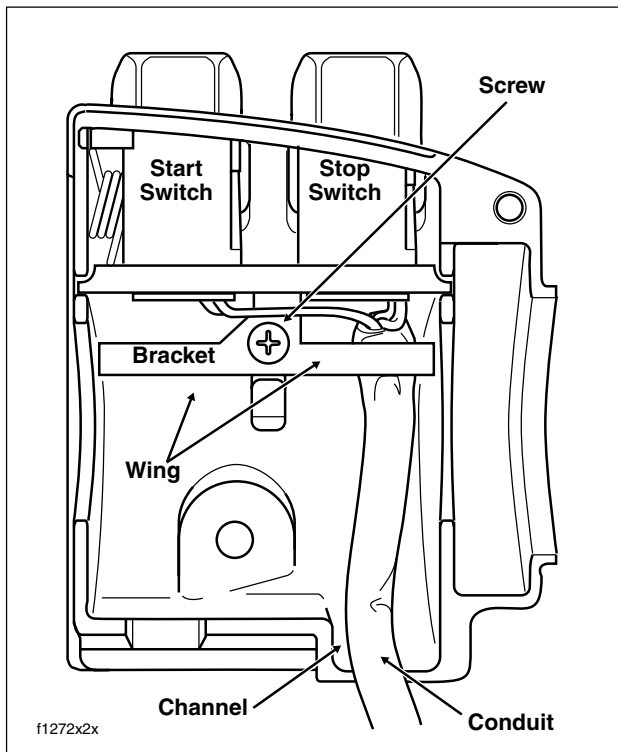
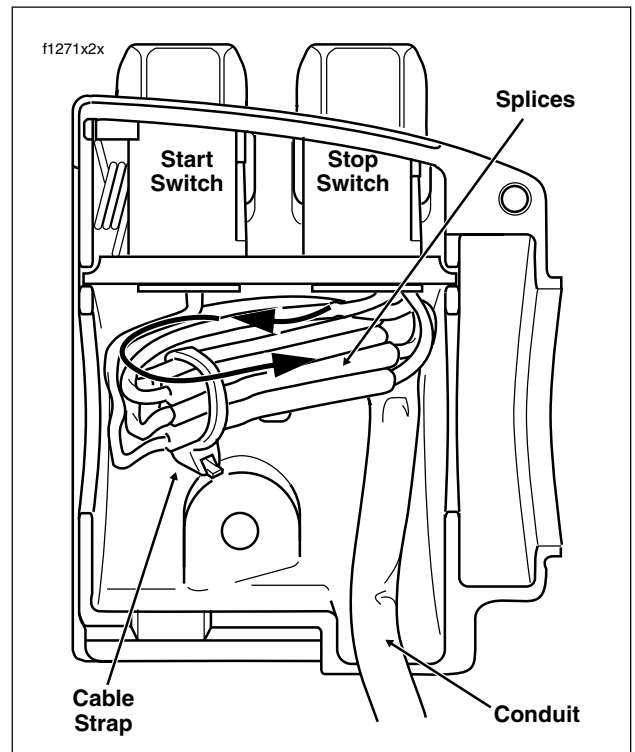

Figure 8-95. Upper Right Handlebar Switch Housing (Without Splices)
Figure 8-96. Upper Right Handlebar Switch Housing (With Splices)
1. From inside the switch housing, remove the Phillips screw to release the bracket. Remove the bracket and switch assembly from the housing. See Figure 8-95.
6. Loop switch wires so that spliced lengths are positioned as shown in Figure 8-96. Route wires downstream of splices beneath wing on Engine Stop Switch side of bracket as seen in Figure 8-95.
9. Install Phillips screw to secure bracket inside housing. Verify that wing on Engine Stop Switch side of bracket captures edge of conduit as shown in Figure 8-95.